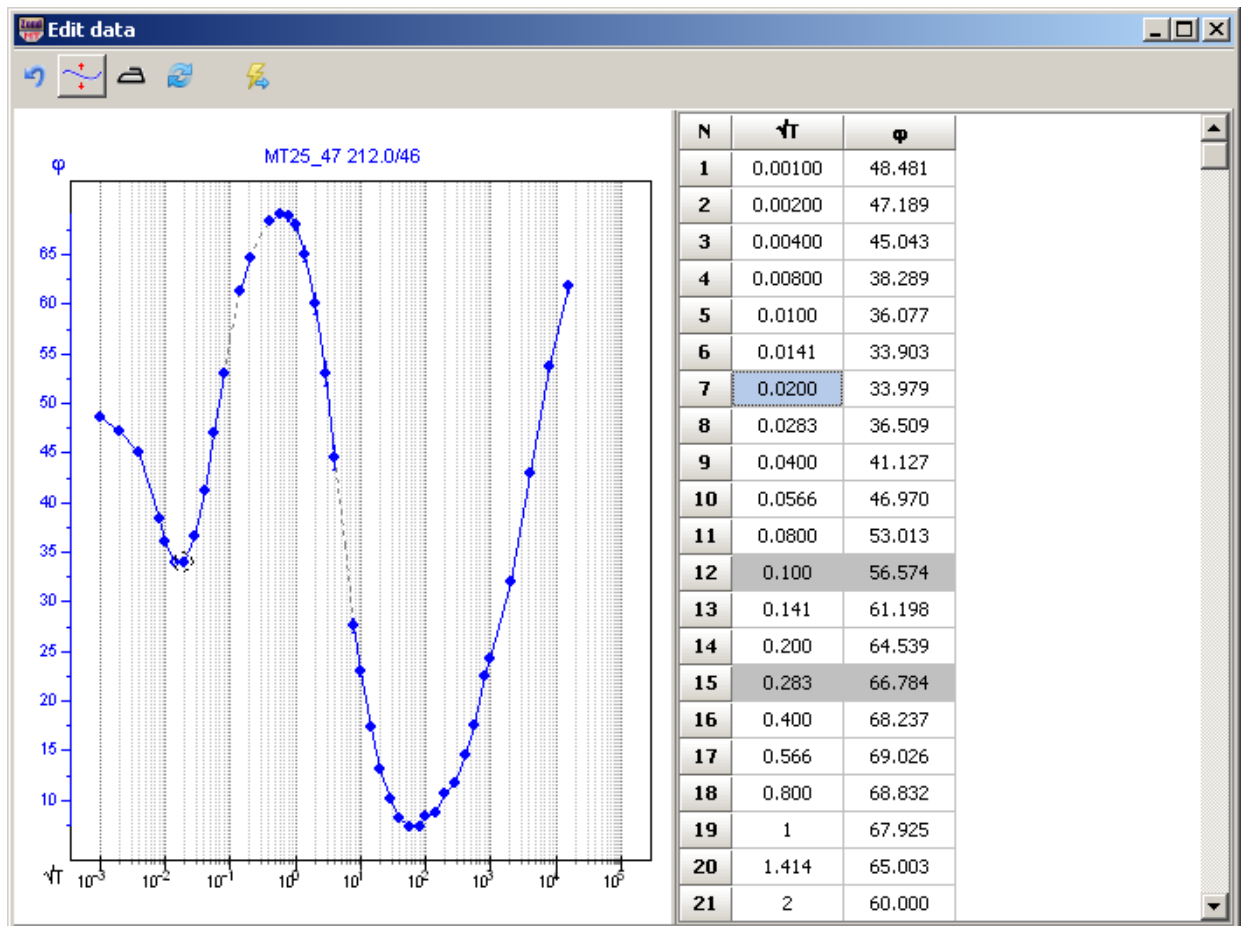

Fig. 22 Sounding curves setup window **Edit data**
**Edit data** option is used to edit sounding curves manually. When this option is selected dialog window **Edit data** appears (fig. 22).